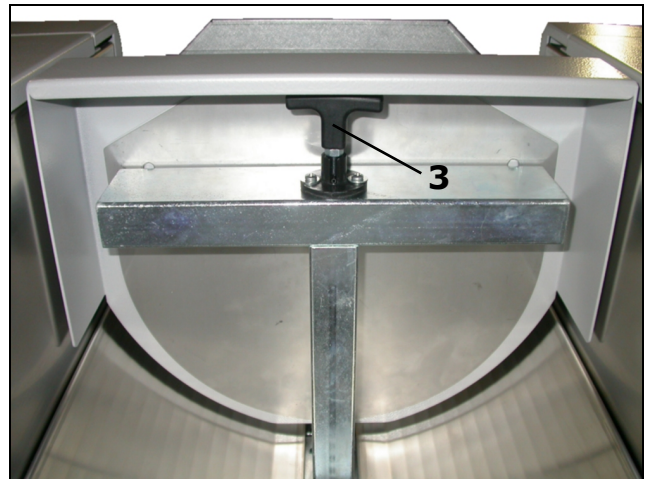

Figure 3-6
The shelf is provided with a locking handle (3) (Figure 3-6) that must be pulled to release the shelf and allow it to be moved to the desired height. Once you have reached the desired height, release the handle to lock the shelf in place, allowing you to rest the can on it.